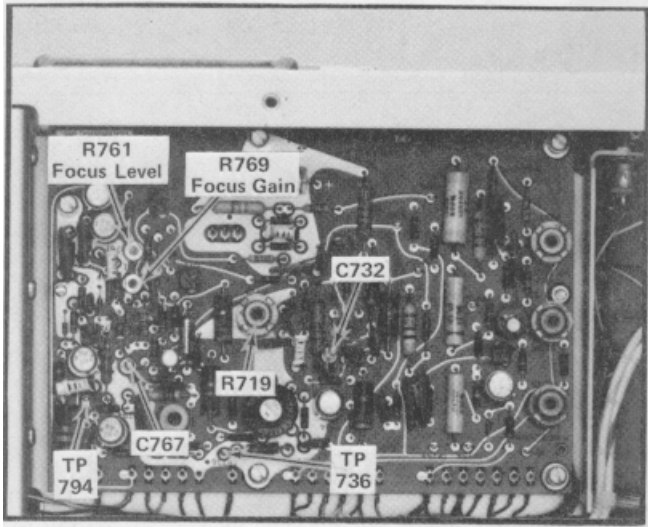
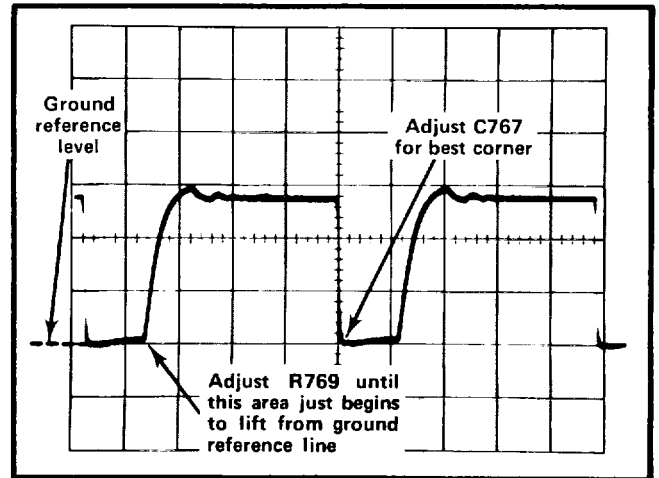

Fig. 5-11. Location of Z-Axis and auto-focus test points and adjustments (High Voltage/Z-Axis Amplifier board).
Fig. 5-12. Typical test oscilloscope display when adjusting autofocus operation.
- c. Connect the probe tip to TP 736 (see Fig. 5-11); connect the probe ground to chassis ground with a short grounding strap.
g. ADJUST-R719 and C732 (see Fig. 5-11) for optimum square leading corner while maintaining a risetime of 30 nanoseconds or less (use low-capacitance screwdriver to adjust variable capacitor).
b. Connect the test oscilloscope probe to TP 794 (see Fig. 5-11); connect the probe ground to chassis ground with a short grounding strap.
h. ADJUST-Focus Gain adjustment R769 (see Fig. 5-11) until the baseline of the waveform just begins to lift from the zero-volt level (see Fig. 5-12 for a typical waveform).
j. ADJUST-Focus compensation adjustment C767 (see Fig. 5-11) for best square corner (see Fig. 5-12) on the negative portion of the displayed waveform (use low capacitance screwdriver). Rotate the A INTENSITY control between midrange and maximum; if necessary, compromise the adjustment of C767 for best square corner throughout the rotation of the A INTENSITY control.
- p. ADJUST-Focus Level adjustment R761 (see Fig. 5-11) for the thinnest displayed trace or best defined read- out.